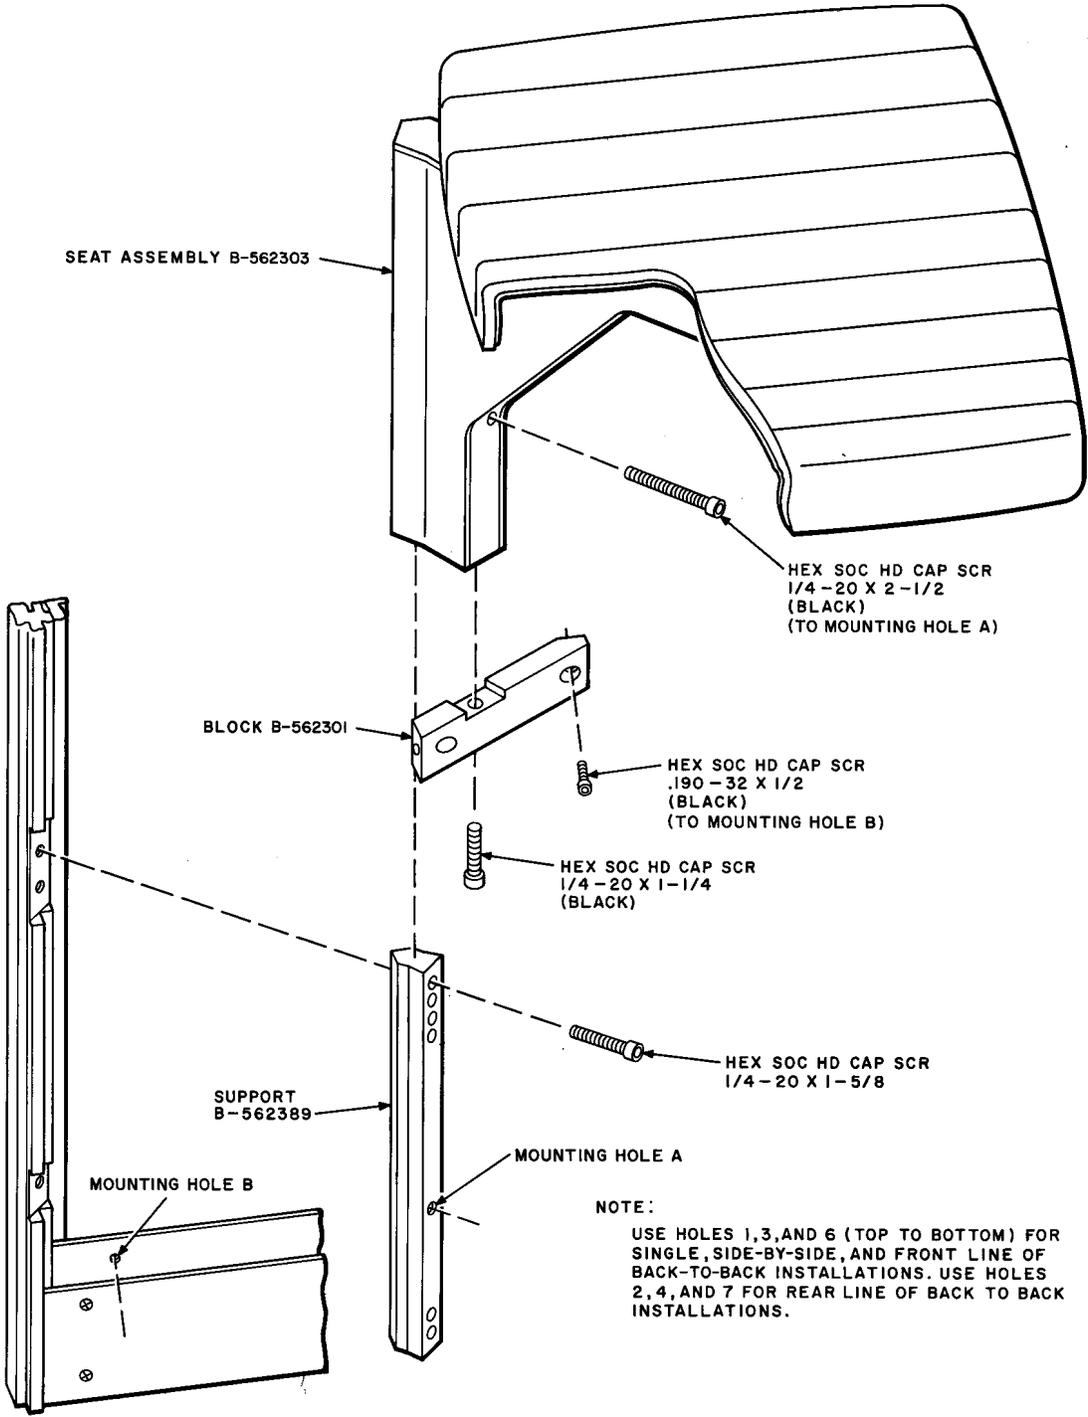

Fig. 23 - Installation of Seat Assembly
(as) Install seat assembly as follows (Fig. 23):
(1) Install B-562389 support to wall using three 1/4-20 by 1-5/8 unpainted hex socket head cap screws. See Note on Fig. 23.
- (2) Secure seat to B-562301 block using one 1/4-20 by 1-1/4 painted hex socket head cap screw.
- (3) Slide seat down over support and secure to corner using one 1/4-20 by 2-1/2 painted hex socket head cap screw.
- (4) Secure B-562301 block to booth using two .190-32 by 1/2 painted hex socket head cap screws.